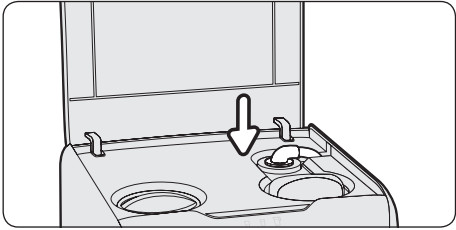

Figure 10
4. Snap the connector into the housing and attach the cable to the clip (Figure 10).